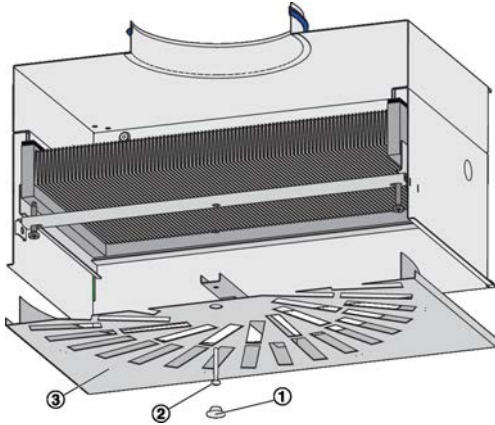

Fig. 6: Removing the diffuser face
1. ▶ Remove the decorative cap (Fig. 6/1) from the diffuser face (Fig. 6/3). **PCD diffuser face (PROCONDIF)**: Remove the central honeycomb sections.
2. ▶ Remove the central fixing screw (Fig. 6/2) and then the diffuser face.